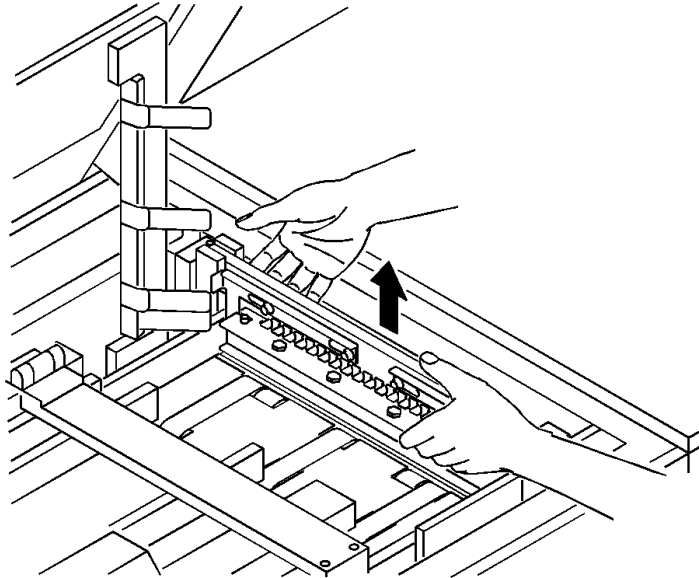

Figure 2-3: Removing and replacing the Die Assembly
- 6 Grasp the base of the Die and lift straight up, as shown in Figure 2-3.